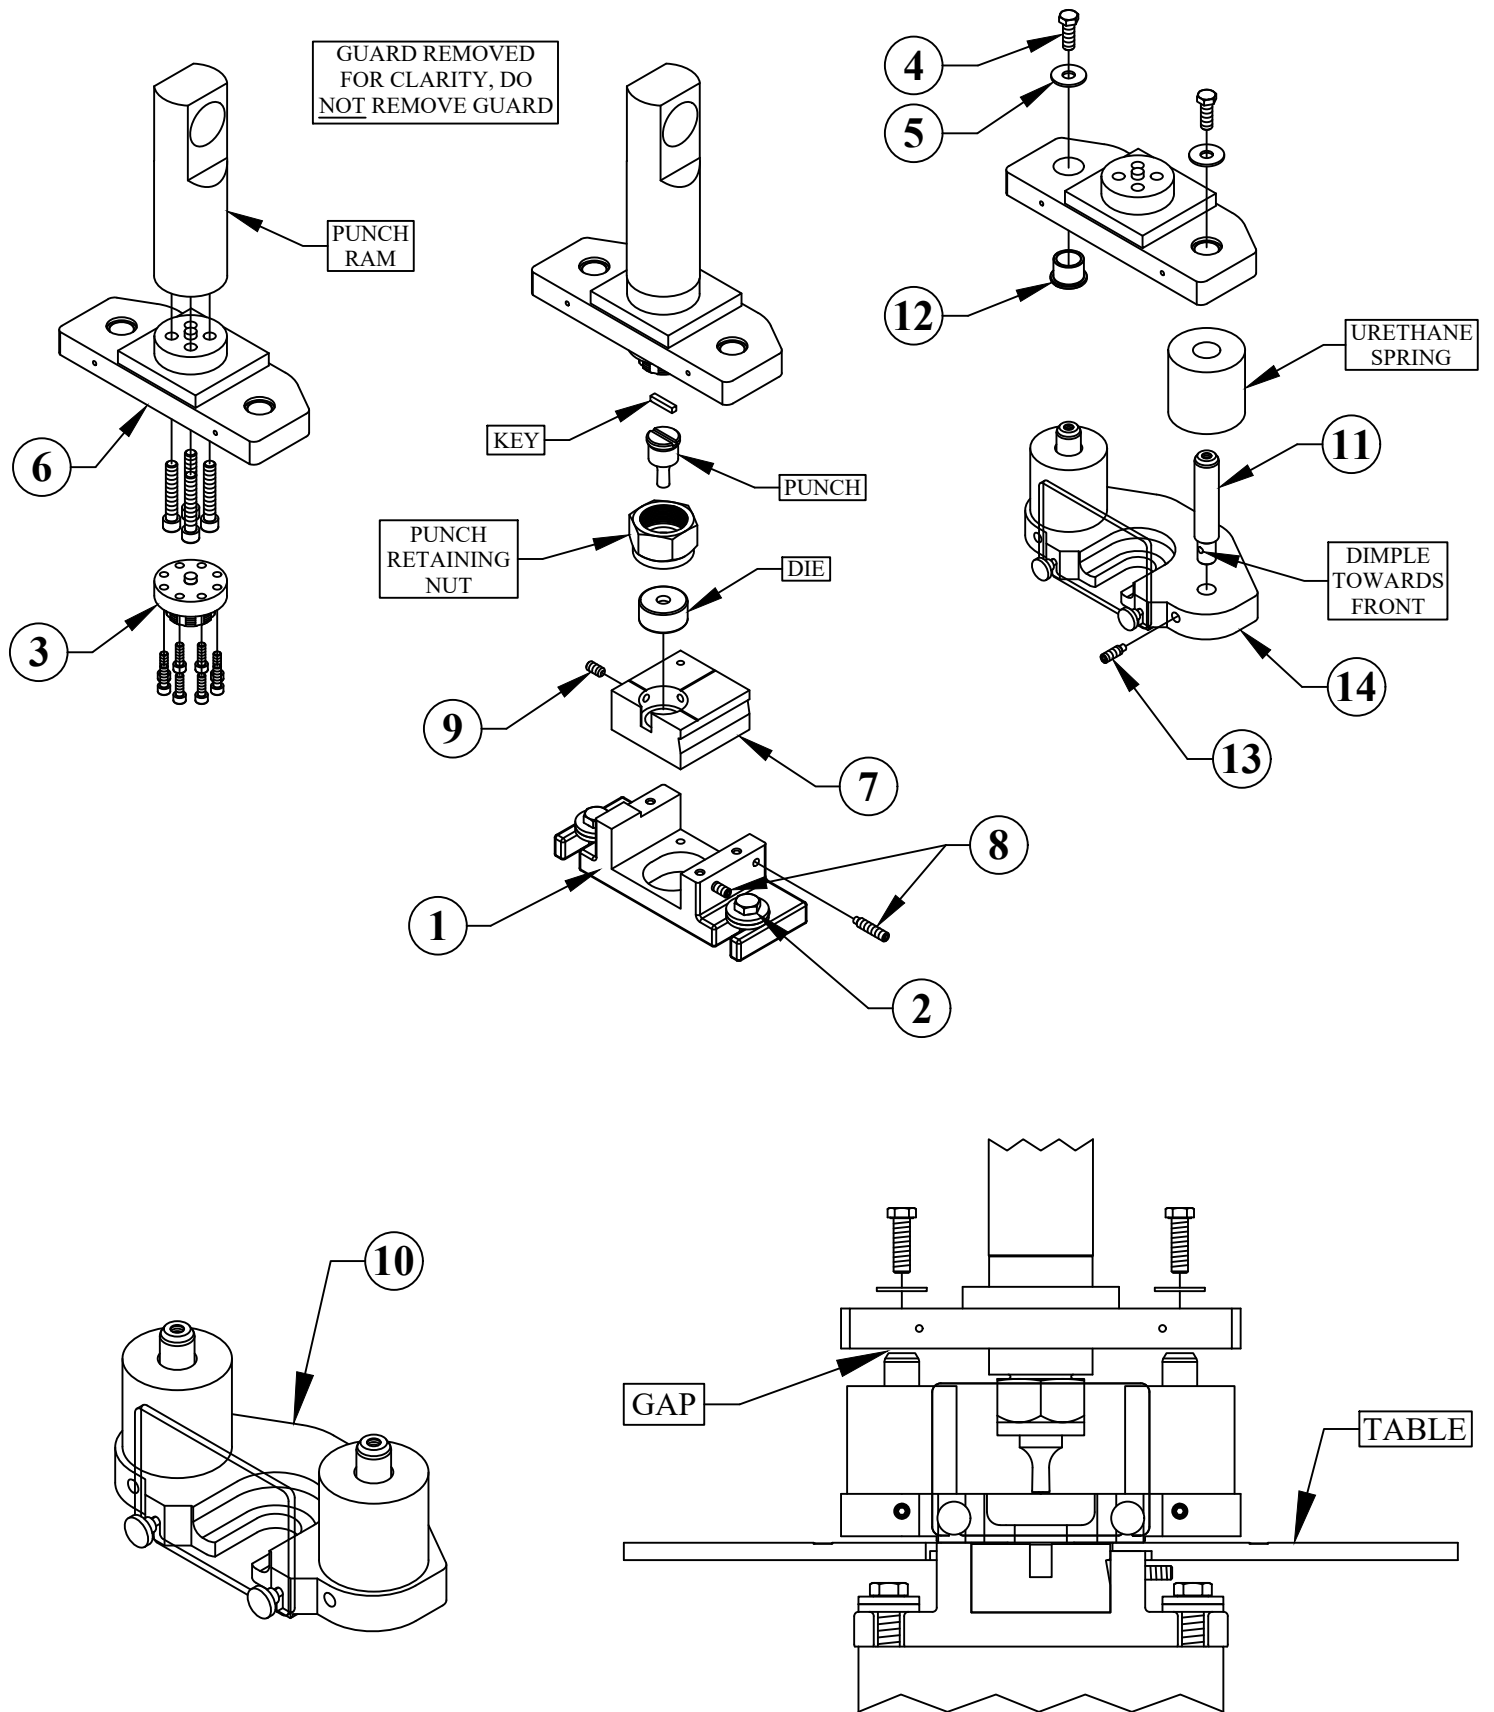

FIGURE 27
20. Power the machine on and place the selector switch in the JOG position. Carefully inch the punch ram down until there is just enough space to slide the lower assembly (10) underneath the stripper mounting plate and power off the machine. (See "Gap" IN FIGURE 27).
SEE FIGURE 27
If the unit is constantly over stroked or over a period of time, it may be necessary to renew the urethane springs. REFER TO FIGURE 27. The springs should be checked periodically. (A sure sign of over stroking is cracking or splitting of the springs.)
- 4. If the posts have become loose in the stripper plate, remove the appropriate set screws, (or if the set screws have already been removed), apply a thread locking solution such as Blue Loctite® and reinsert the set screws, making sure they are inserted into the dimples on the bottom of the posts (SEE "DIMPLE TOWARDS FRONT" IN FIGURE 27).**